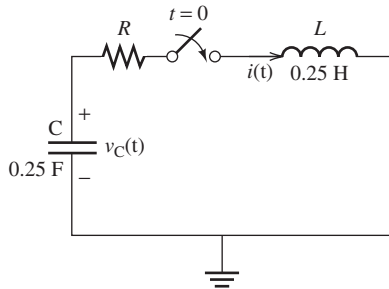

FIGURE P5.44 Circuit for Problem 5.44.
5.44 (A) Consider the circuit shown in Figure P5.44. The switch closes at $t = 0$ after the capacitance is fully charged $v_C(0^-) = 6$ V: